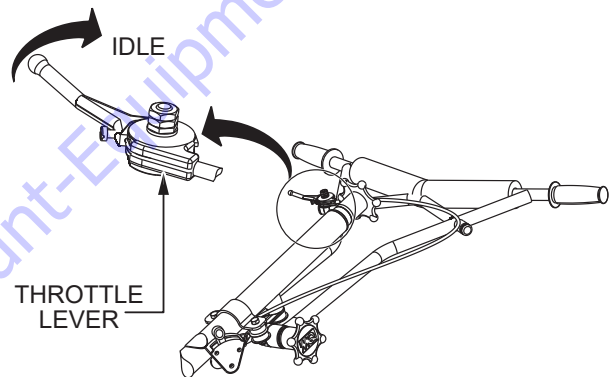

Figure 36. Throttle Lever (Idle)
3. Place the throttle lever in the **IDLE** position (Figure 36).